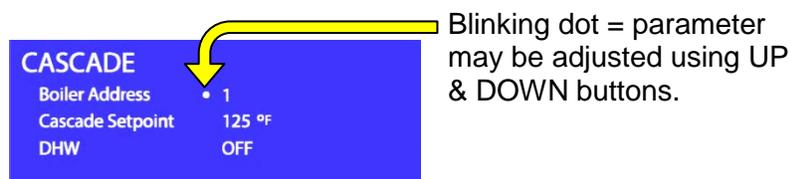

Figure 2-4: Sub Menu – Changing the Parameter Setting
- When desired parameter is selected (dot), press **Ok button**. The dot will then appears to the left of the parameter setting (Figure 2-4) and begins to blink, indicating it may be adjusted.